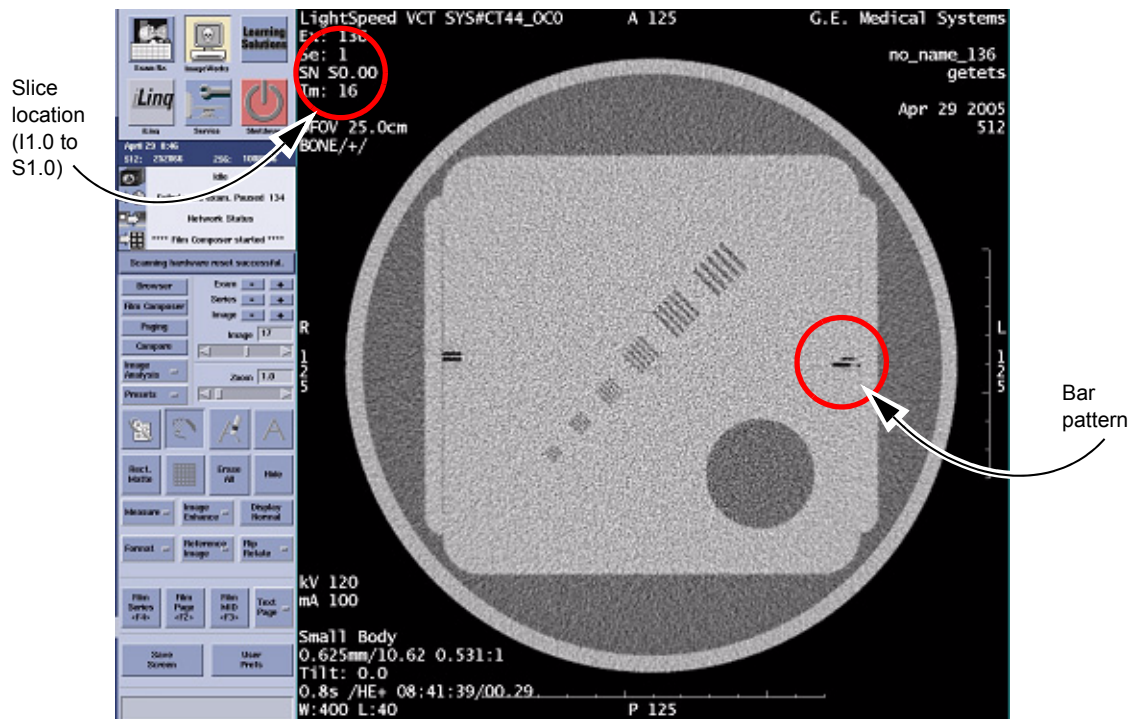

Figure 7-2 Exam, Series, Image 1
- 11.) Locate the scan plane indicator, the longest bar in the bar pattern on the right side of the phantom. The right side of the phantom corresponds to the side of the image labeled **L** on the display screen. See **Figure 7-2**.